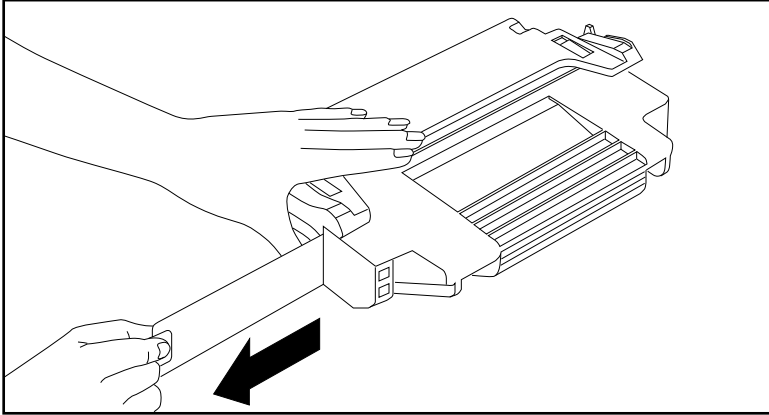

Fig. 6.13 Remove the Toner Sealing Tape
2. Place the cartridge on a flat surface and gently flex the black end tab on the sealing tape back and forth until it becomes loose. Then, pull the tab and 21" tape straight out from the toner cartridge and discard it (fig. 6.13).